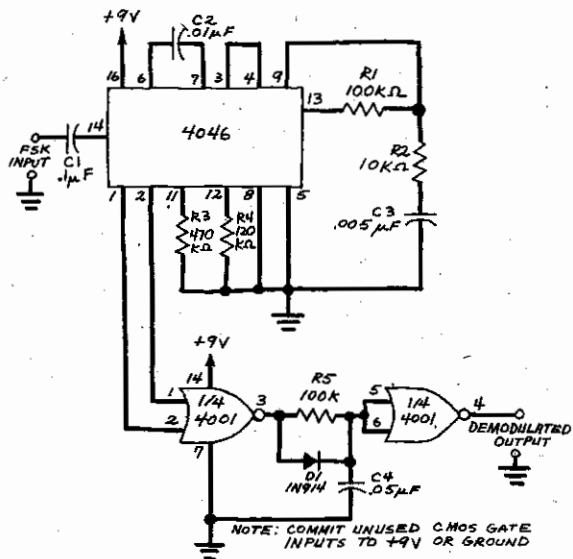

Fig. 2. A frequency-shift-keying (FSK) detector circuit.
**FSK Detector.** A 4046 circuit designed specifically for Kansas City FSK detection is shown in Fig. 2. The vco is tuned by selecting *R1* and *R2* to give a capture bandpass from 2100 to 2700 Hz with a peak response of 2400 Hz. Frequencies outside the capture window are not detected; hence the lock detector goes high for a 2400-Hz input signal and low for a 1200-Hz input signal. These logic states can be reversed by adding a third gate in the 4001 to the output of the detector.
**Tone Detector.** The circuit in Fig. 2 can be used to detect a wide range of input frequencies. For example, when *R4* is 1 kΩ and *R3* is 33 kΩ, the circuit responds to an incoming frequency of 48.775 kHz. The capture window with these values is very narrow (48.76-48.80 kHz). This demonstrates the possibility of using the 4046 as a precision tone detector. This application is normally reserved for the 567, a bipolar chip that uses considerably more power than the 4046.